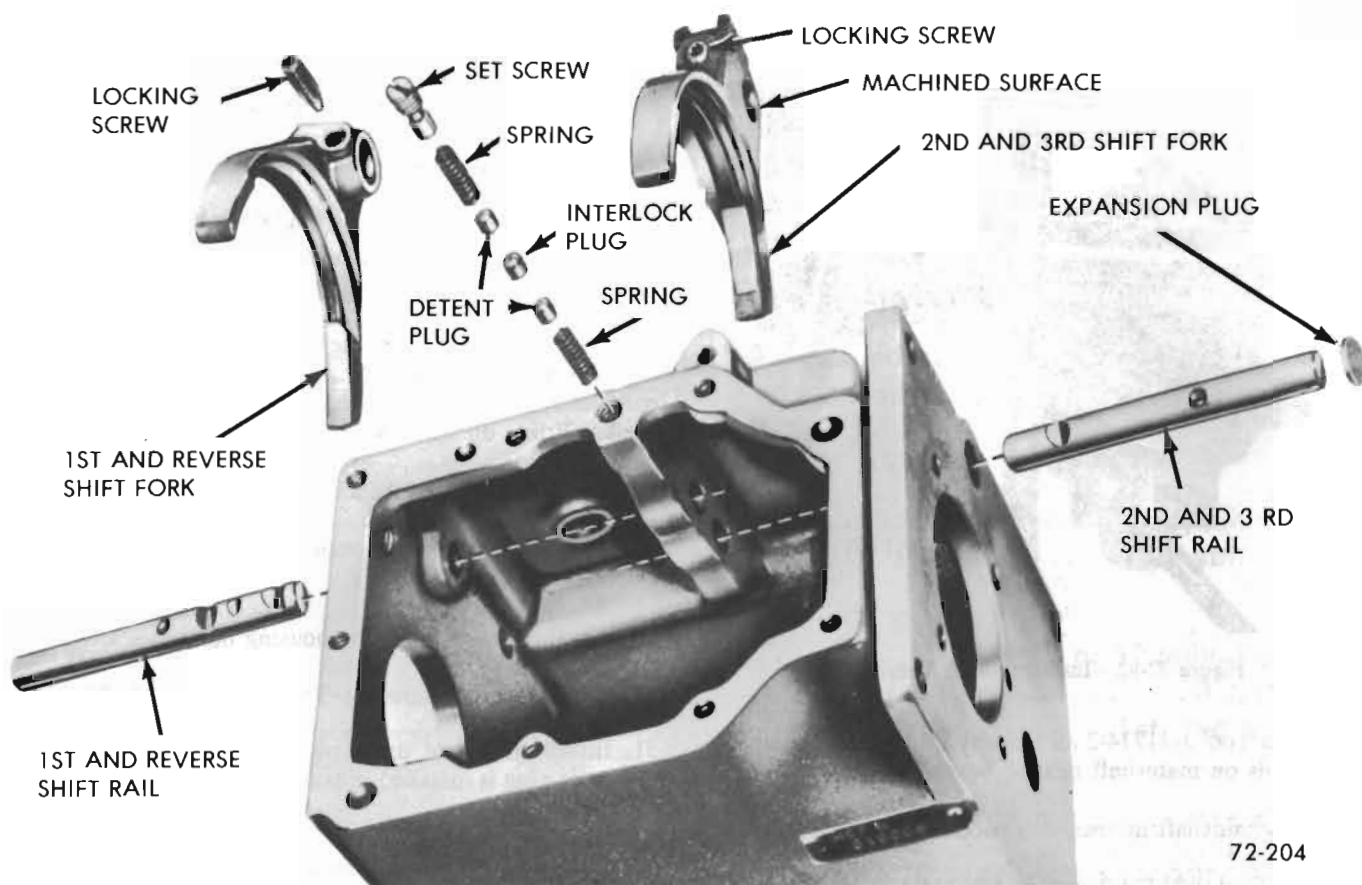

Figure 72-91 - Shift Rails, Fork and Detent Plugs
13. Install interlock plug in case. If second and third speed shift rail is in neutral position, top of interlock will be slightly lower than surface of first and reverse shift rail bore. See Figure 72-91.